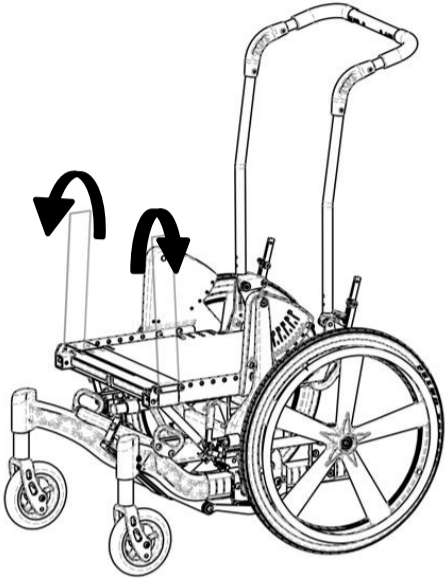

Figure 14.46: Take-Apart - Front Straps
3. Unfold the front Velcro straps, typically located under the front edge of the seat cushion (Figure 14.46).